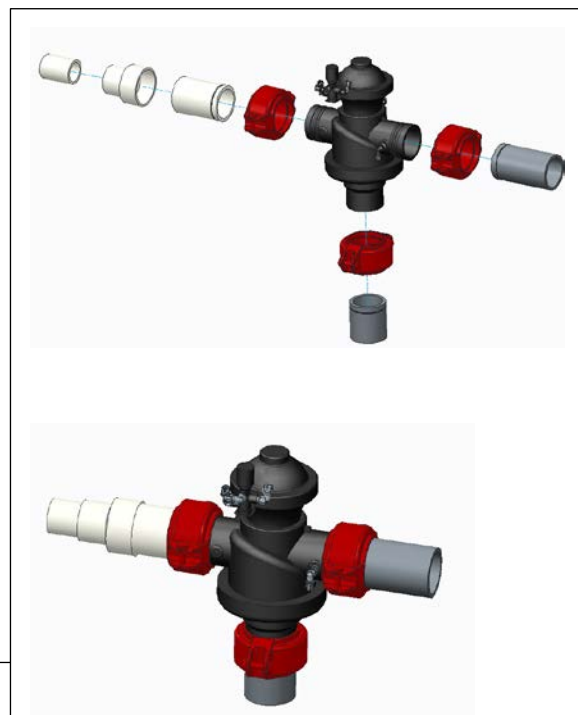

Figure 2 Grooved Fitting Assembly
1. The 3" backwash valve model has grooved fittings. The valve will need to be assembled to PVC grooved adapters (included). Basic assembly instructions for grooved fittings follow (See Figure 2):